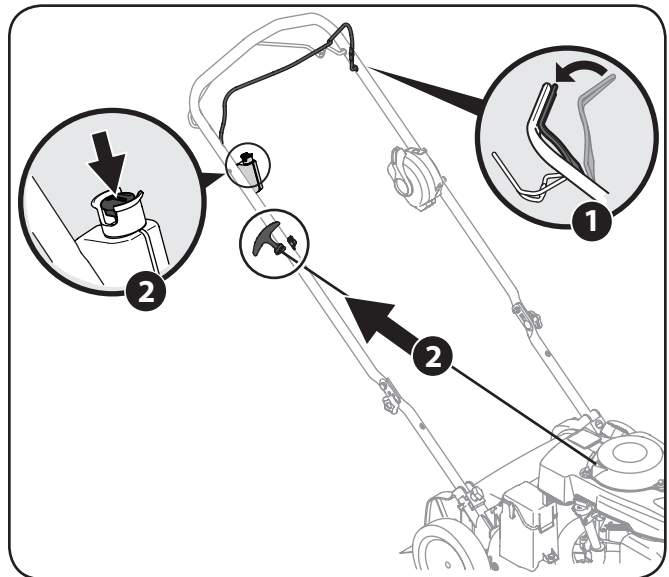

Figure 5-4
1. Standing behind the mower, depress the blade control handle and hold it against the upper handle. See Figure 5-4.
Electric Start: Insert plastic push key attached to upper handle into starter button until it snaps in. Push the electric starter button to start the engine. See Figure 5-4.